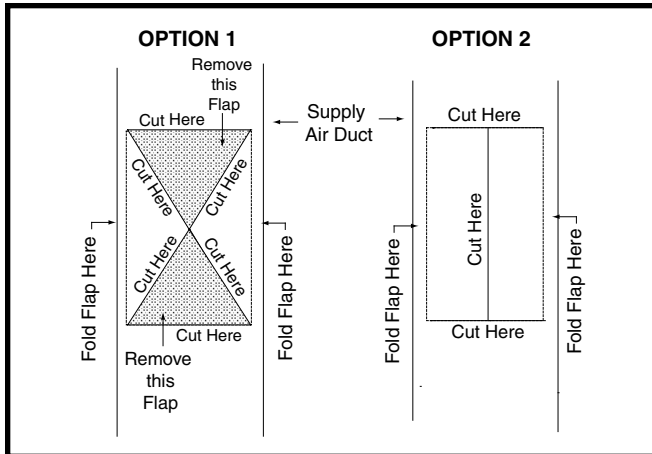

Figure 11. Narrow Air Duct Openings
1. Score and cut the top of the supply air duct as indicated in Option 1 or Option 2. See Figure 11 \(page 10\). **NOTE:** If Option 1 is selected, cut out the metal from the shaded area.